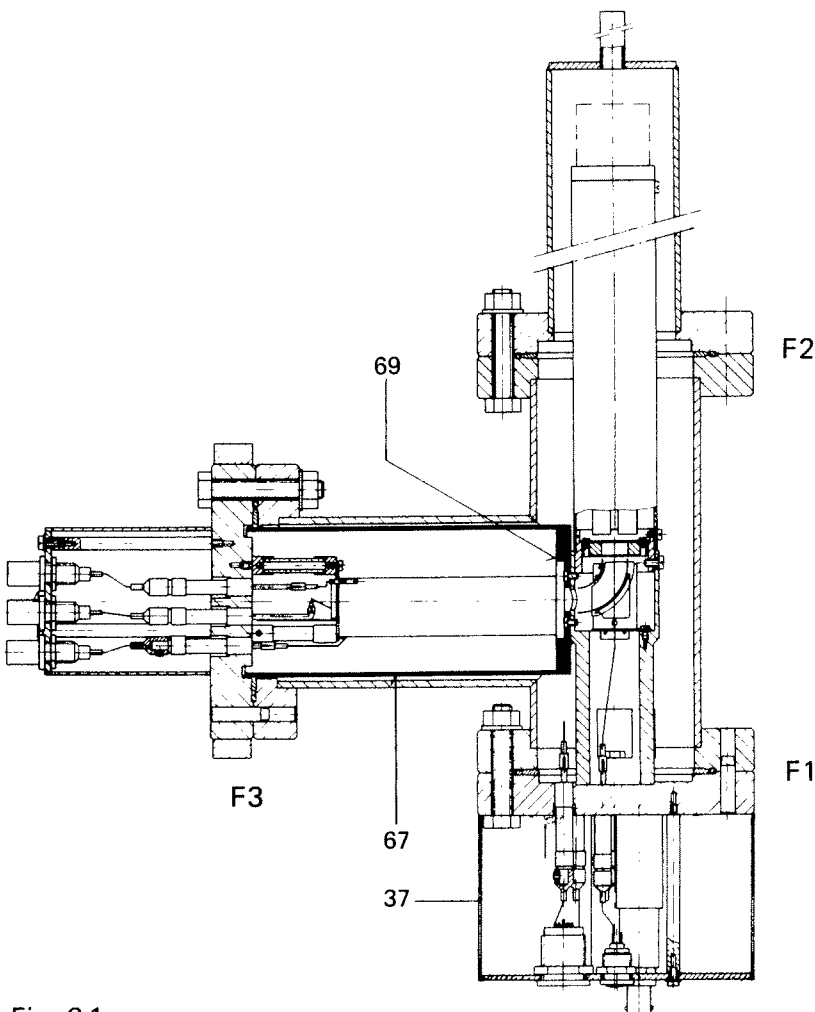
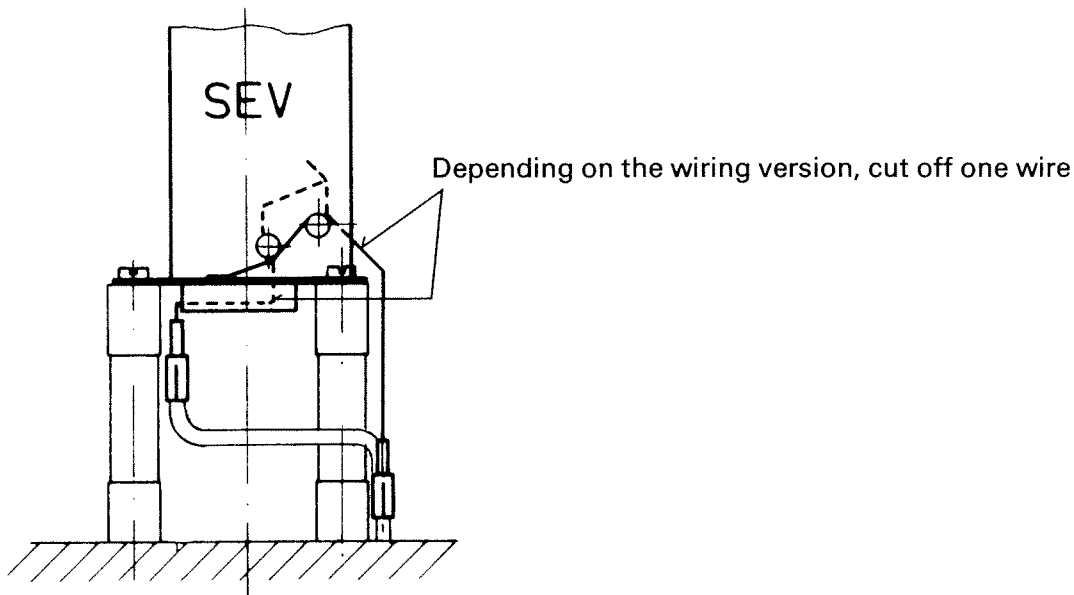
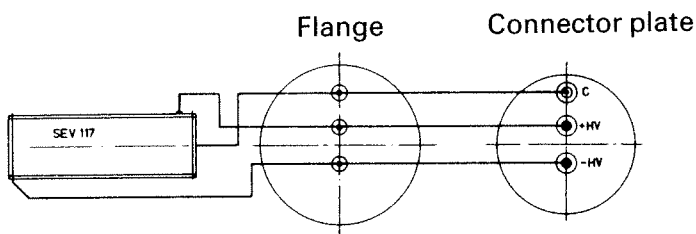

Fig. 6.1
Fig. 6.3
Fig. 6.4
NOTE: Refer to Fig. 6.1
- e) Place the mass filter in the T-piece before installing the SEM. A pin guarantees correct positioning. Tighten the connections for Flange F1 (Fig. 6.1).
- f) Screw in the SEM shielding tube slightly. If the threads don't catch i.e if the friction of the shielding against the wall is too great, the fixation screws for the thread piece (71) can be loosened somewhat and then retightened after the shield has been screwed in.
- a) Open the SEM flange (F3 / Fig. 6.1) and place it on the assembly block.
- b) Remove screws (41)
- d) Put the new SEM in place and put any washers back in their proper place. Plug the connector onto the appropriate pins (Fig. 6.3 / Fig. 6.4)
- e) Affix the SEM with screws (41)